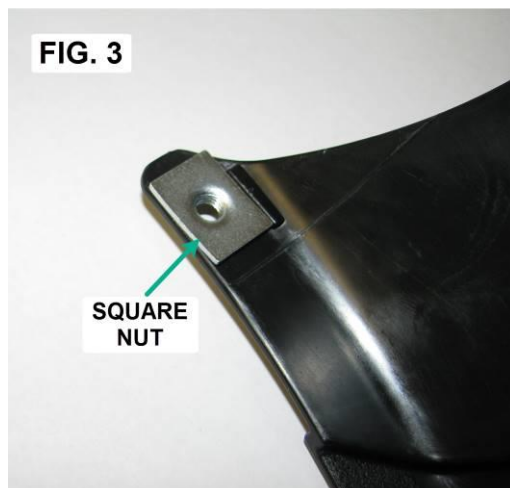

FIG. 3
10. INSTALL A SUPPLIED M6 SQUARE NUT INSIDE THE FENDER EXTENSION ON THE LEFT SIDE (FIG. 3 SHOWS NUT ORIENTATION). HOLD IN PLACE.